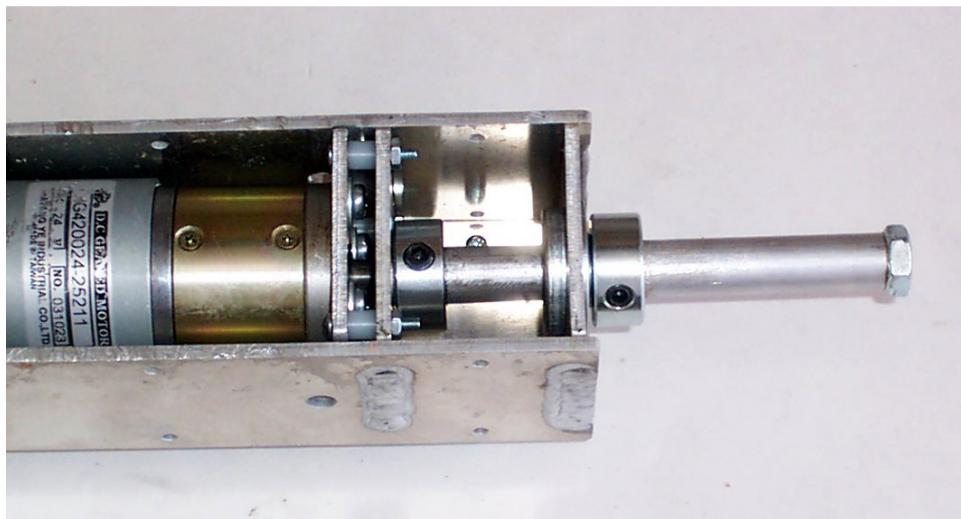

Figure 7: Motor Shaft Insertion
7. Install the shaft and the bearing into the motor housing and onto the motor shaft as shown in Figure 7. The bearing needs to be pressed into the hole, two pairs of pliers or channel locks work best for this (pinch the flange to the inside face of the housing). If you only have one pair just work it back and forth until it's inserted. If the housing bearing plate is bent during this operation straighten it out before proceeding.
5. Install the shaft and the bearing into the motor housing and onto the motor shaft as shown in Figure 7. The bearing needs to be pressed into the hole, two pairs of pliers or channel locks work best for this (pinch the flange to the inside face of the housing). If you only have one pair just work it back and forth until it's inserted. If the housing bearing plate is bent during this operation straighten it out before proceeding.